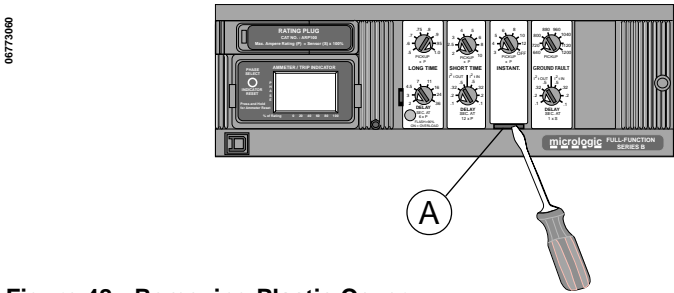

Figure 48: Removing Plastic Cover
1. Remove clear plastic cover by placing small straight-blade screwdriver in slot (A, Fig.48) in cover and exerting pressure upward and outward.